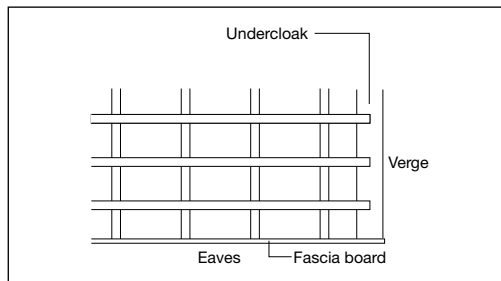

Fig 67 - Batten configuration at eaves
- 2 Position eaves batten so that eaves course overhangs fascia by a maximum of 50mm (Fig 67).